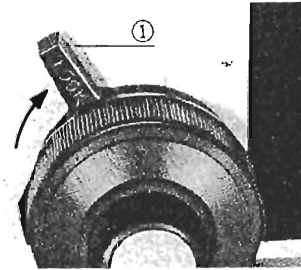

Fig. 8
This lever ① is locked after coarse focus has been accomplished. It prevents further upward travel of the stage by means of the coarse adjustment knobs, and automatically provides a limiting stop if the stage is lowered and then raised again. (Fig. 8)